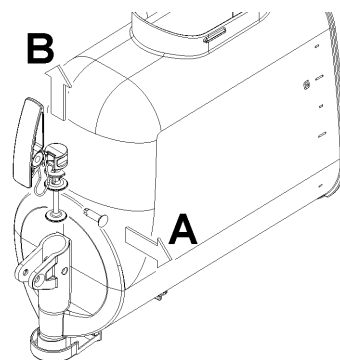

figure 11
5 Disassemble the tap by following the order given (see figure 11).
- 3 Reassemble the tap on the container in reverse order compared to that shown in figure 11.